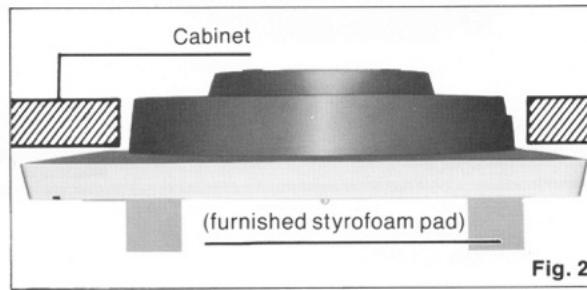

Fig. 2
- Place a suitable support (furnished styrofoam pad) under the base panel to protect the spindle from external shocks and vibrations. (Fig. 2)